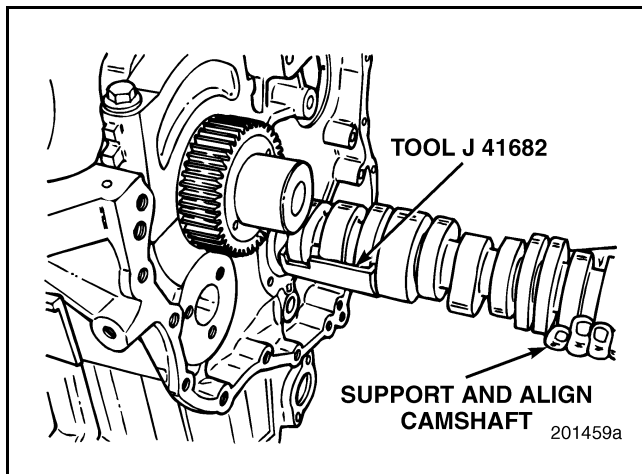

Figure 318 — Camshaft Installation
10. Slide the camshaft into the block with the cam installation guide facing down toward the floor. Refer to Figure 318.